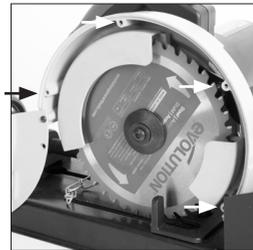

Fig. 2
- Remove the four (4) socket head screws securing the upper blade guard.
- Gently ease the guard outwards and rotate it downward and forward to reveal the machine's arbor. (Fig. 2)